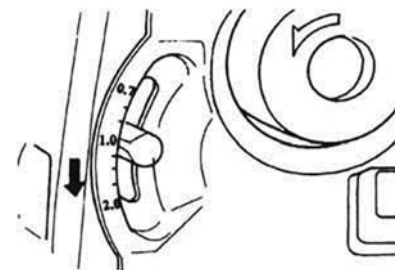

Fig. 44
- Adjust the differential transport lever ⑨ to a value higher than 1.0 (Fig. 44). The exact setting depends on the material to be processed and the desired level of ruffling or gathering. Therefore always do a sample stitching to test the settings.